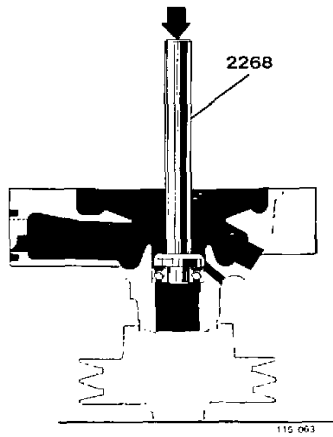

Fig. 201. Fitting the rear bearing in housing
11. Place the pump in a counterhold as per fig. 201. Press the bearing into the pump housing using drift 2268.